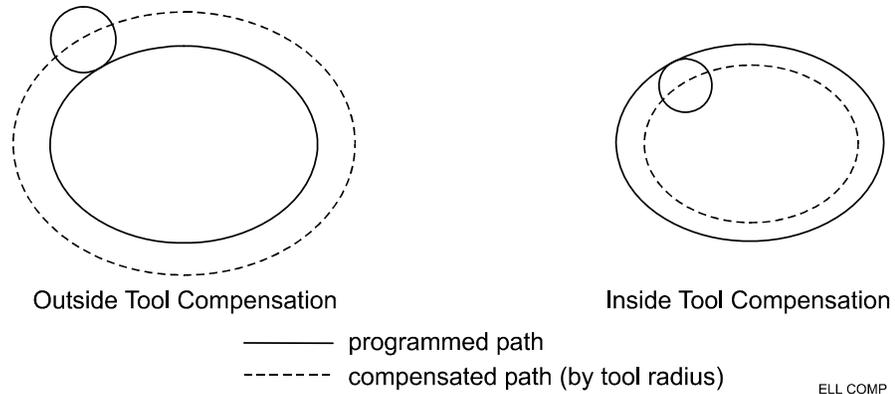

Figure 5-27, Ellipse Tool Compensation
- CompSide** Offsets tool path to the inside (**In**) or outside (**Out**) of the ellipse by the tool radius. Refer to **Figure 5-27, Ellipse Tool Compensation**. If you leave the entry blank, no tool compensation is activated during the cycle. (Optional)